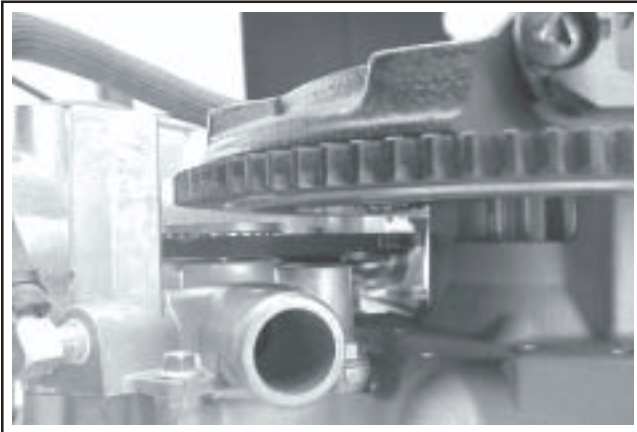

Figure 11-71. Clearance Check/Verification.
- Using a light, visually check that sufficient clearance exists between the cooling system components and bottom of flywheel. See Figure 11-71.